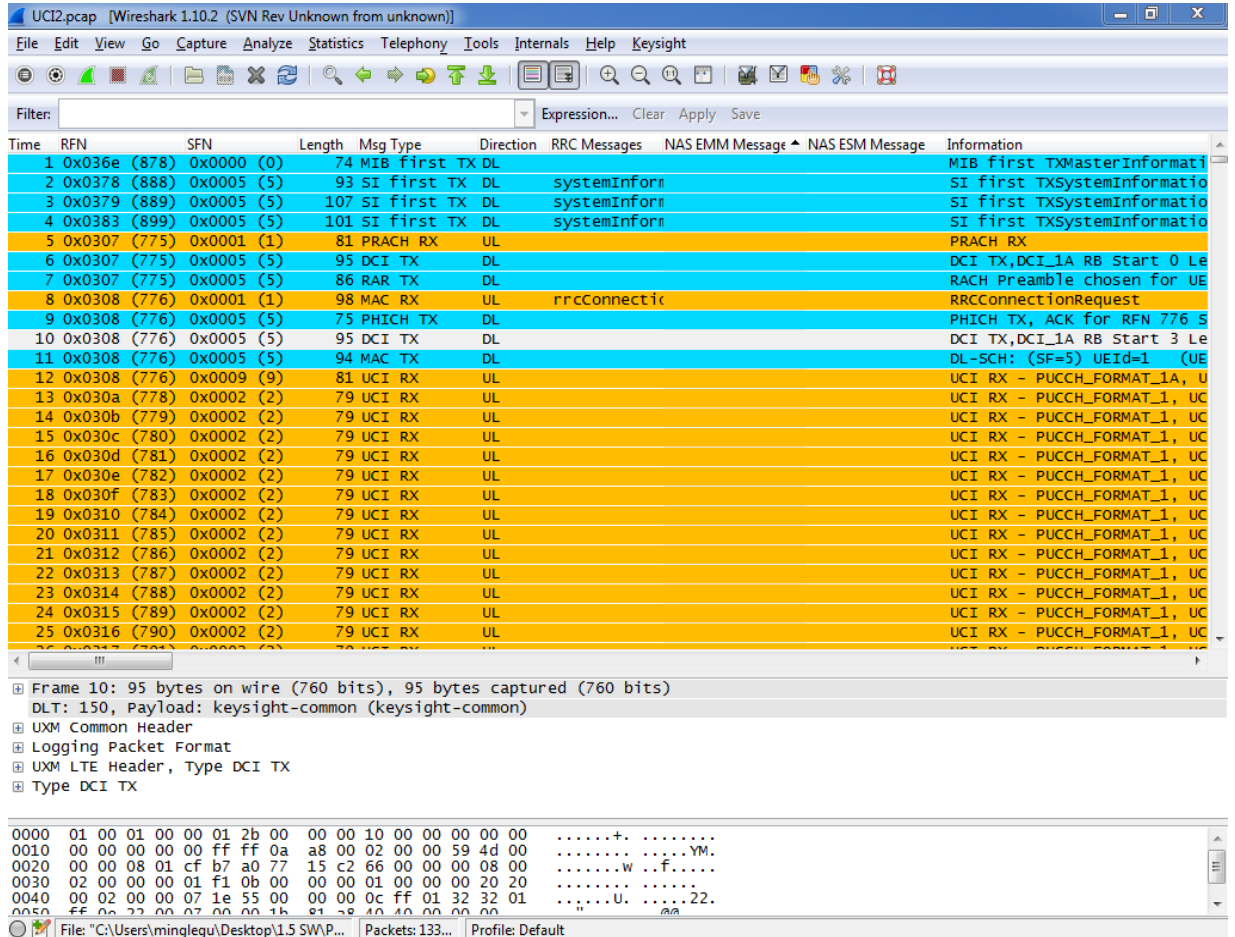

Figure 2-1: Example Protocol Logging and Analysis log
The Protocol Logging and Analysis software (PLA) runs on PCs using the Microsoft (MS) Windows 7 operating system. It captures the protocol logging data from the UXM, then decodes the data into proper format and displays them in details to the users. The PLA software is connected to the UXM via a private Ethernet interface to capture message exchange of different layers. Figure 2-1 shows an example Protocol Logging and Analysis log.